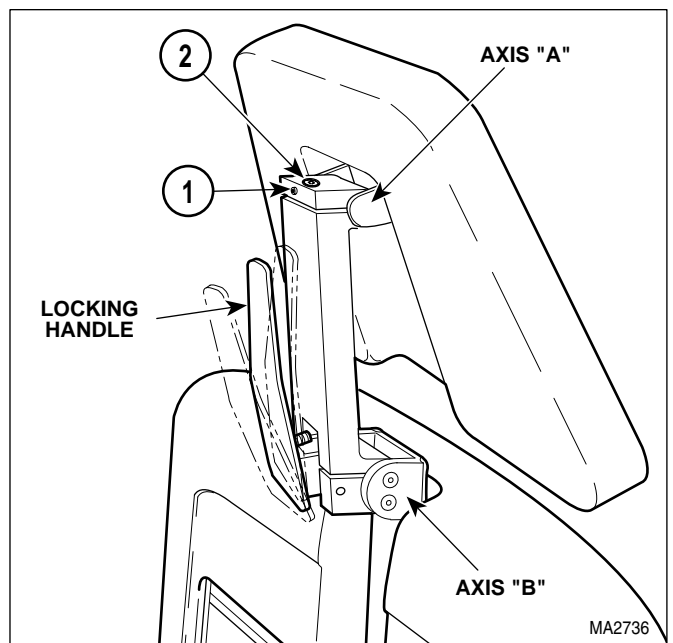

Figure 4-34. Headrest Assembly Adjustment
- (2) Loosen setscrew (1, Figure 4-34).